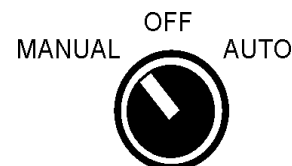

Figure 11. Manual-Off-On SW. (Man Position)
2. For manual operation of the pump, place the 3-position operation switch (Figure 11) on the control box in the **MANUAL** position.